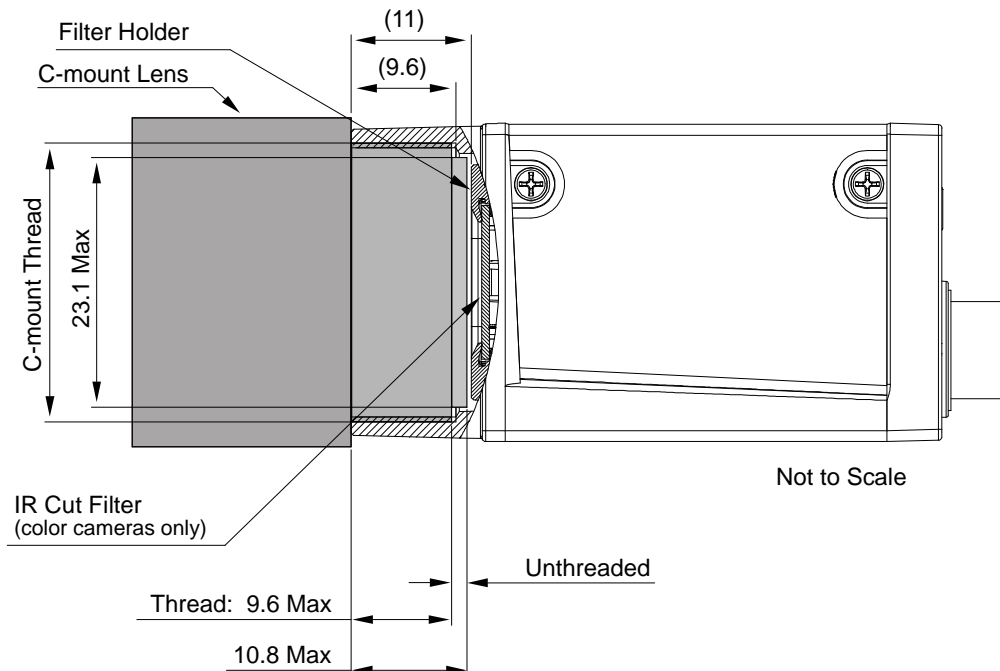

Fig. 27: Maximum Lens Thread Length (Dimensions in mm) for Cameras with the C-mount Lens Adapter
- Camera with C-mount lens adapter (see Figure 27):